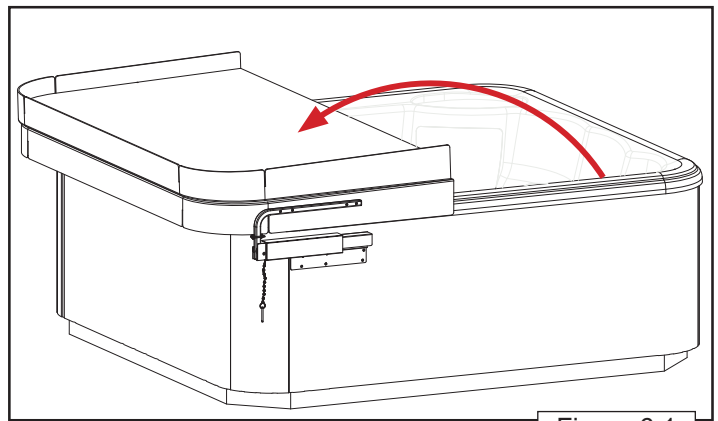

Figure 6.1
2. Fold the front half of the cover over the back half of the cover (Figure 6.1).